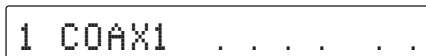

Figure 2
3. Press the SETUP Push-button to exit from the Setup Mode. The LED above the SETUP Push-button will extinguish and the Front Panel Display will revert back to its normal display. Refer to figure 2.
guished and the Front Panel Information Display indicates the currently selected digital source Input. Refer to figure 2.
3. Press the SETUP Push-button repeatedly until the LED above the SETUP Push-button is extinguished and the Front Panel Information Display indicates the currently selected digital source Input. Refer to figure 2.